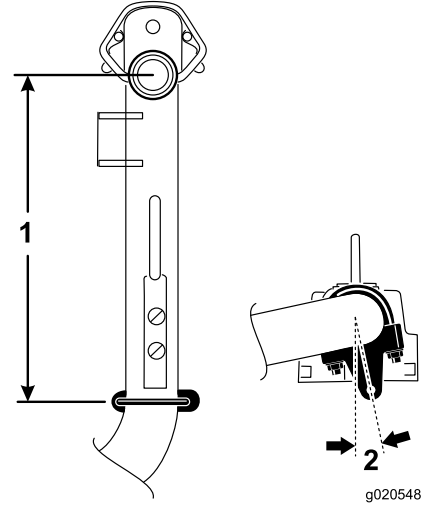

Figure 6
- On lift arms #6 and #7, position the brackets and U-bolts 36.8 cm (14.5 inches) behind the center line of the pivot knuckle (Figure 6).